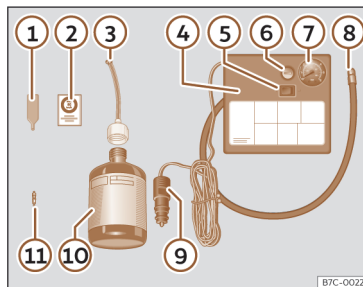

Fig. 213 Standard display: contents of the anti-puncture kit.
>>> **Fig. 213:**
- Unscrew the tyre valve cap and insert. Use the device >>> **Fig. 213** 1 to remove the valve cap. Place it on a clean surface.
- Shake the tyre sealant bottle vigorously >>> **Fig. 213** 10.
- Screw the tyre inflation hose >>> **Fig. 213** 8 into the tyre sealant bottle. The bottle's seal will break automatically.
- Remove the filler cap >>> **Fig. 213** 3 and screw the open end of the tube into the tyre valve.
>>> Fig. 213 ① onto the tyre valve.
- Screw the tyre inflation tube of the compressor >>> Fig. 213 ⑧ on the tyre valve.
- Check that the air evacuation screw is closed >>> Fig. 213 ⑥.
- Attach the connector >>> Fig. 213 ⑨ to the vehicle's 12 volt power outlet >>> page 201.
- Switch on the air compressor with ON/OFF switch >>> Fig. 213 ⑤.
- Attach the sticker >>> Fig. 213 ② to the instrument panel display, within the driver's field of vision.
Screw in the inflator tube >>> Fig. 213 ⑧ again and check the pressure on the gauge ⑦.